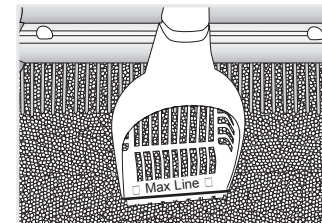

Fig. 4
- **Use only hard clumping litter.** Do not use non-clumping litter, crystal or pearl-like litters. Fill LitterMaid® litter box to **just below** the "Max Line". Do not overfill unit or it will not operate properly. Use the fill line on the LitterMaid® scoop and rake cleaner to check that litter is at the correct level in center of unit (Fig. 4).